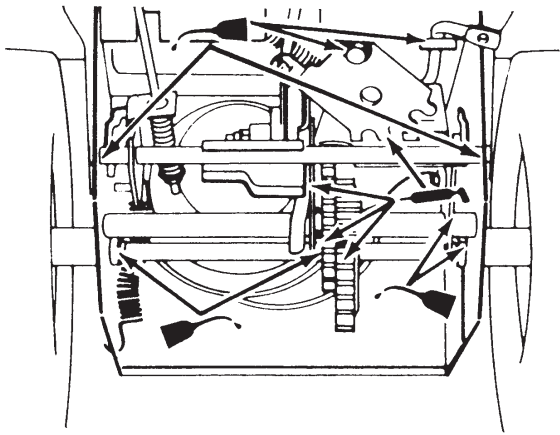

Figure 28
- Lightly lubricate the snowthrower with light oil as shown in Figure 28.
- Grease the snowthrower as shown in Figure 28.